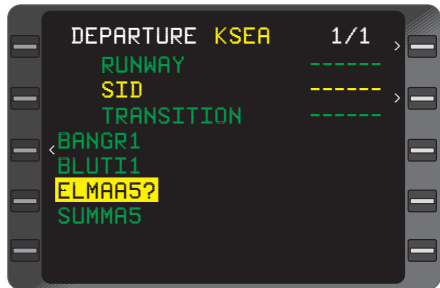

Figure 3-23
5. Line Select Key - DEPRESS to position the cursor over the desired SID, if required. (Figure 3-23)